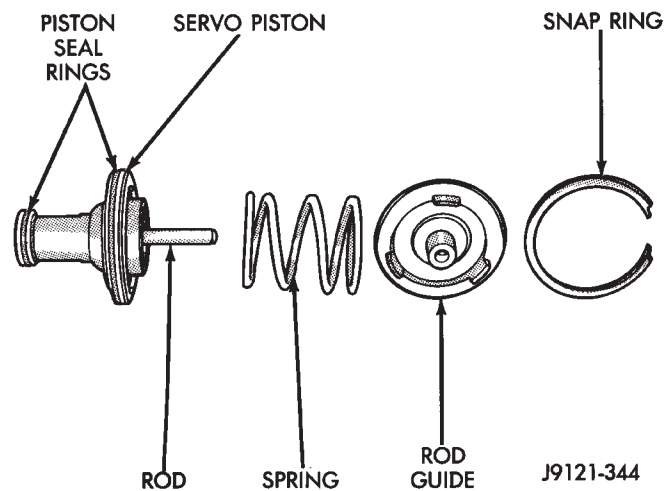

Fig. 140 Front Servo Components
(2) Install front servo piston assembly, servo spring and rod guide (Fig. 140).